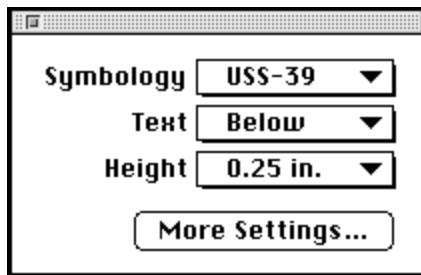

Figure 2-16 Bar Code Info Window
6. Verify that the Bar Code Info window is open. If it is open, it appears like Figure 2-16. If it does not appear, choose **Bar Code Info** from the **View** menu or press **M** to display the window.
7. Verify that **Symbology** is set to **USS-39** as shown in Figure 2-16. If another symbology is displayed, click the triangle to display the pop-up menu and select **USS-39**.